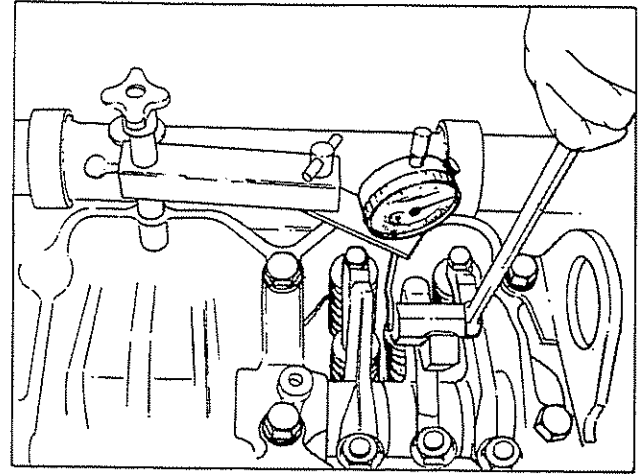

Fig. 2-44, (OM1052L). Actuating rocker lever
- Using ST-1193 Rocker Lever Actuator, Fig. 2-44, or equivalent, bar the lever toward the injector until the plunger is bottomed to squeeze the oil film from the cup. Allow the injector plunger to rise, then bottom again. Set the indicator at zero (0). Check the extension contact with the plunger top.